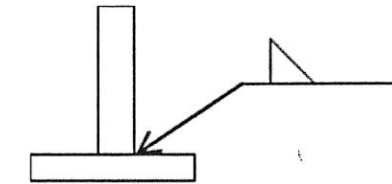

Figure 3
25. The welding symbol shown in figure 3 above represents. [CLO2]